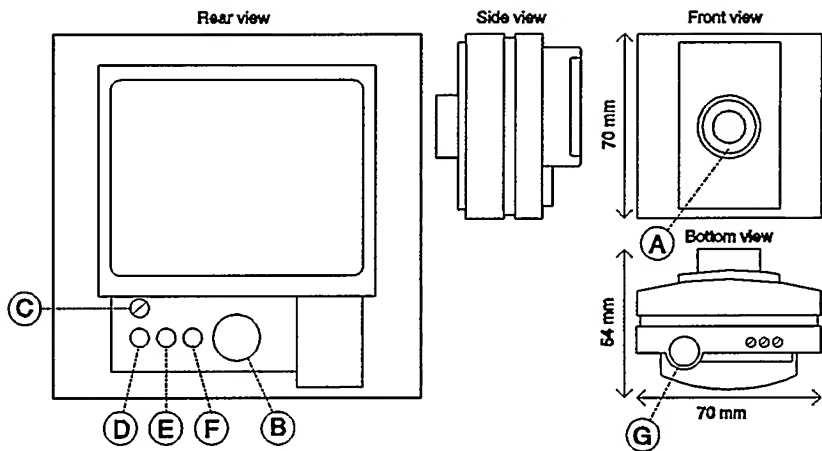

Fig. 1
Connect the power leads to (D) and (E), fig. 1.
For DC supply: (D) is - and (E) is + voltage. An extra safety ground connection is provided, (F) fig. 1, to connect the camera to ground potential. The maximum voltage between the supply inputs (D) and (E) and the safety ground (F) must be less than 50 Volt.
A standard VBS video signal is available at the cinch connector, (G) fig. 1, on the bottom of the camera. The use of a 75 ohm coaxial cable is recommended, for example RG-59/U.
This effect can be avoided by locking the camera to the local line frequency: **linelock**. For this reason the camera is already locked to the local line frequency when an AC power source is used. The Vphase potentiometer, (C) fig. 1, enables a **phase adjustment** of the linelock over 240 degrees.
Your camera is equipped with an integrated, 4 mm, f/2.0 lens, (A) fig. 1, with a viewing angle of 74° horizontally and 55° vertically. The depth of field ranges from 1 metre to infinity.
The camera is provided with a mounting hole with 1/4" Whitworth thread, (B) fig. 1, which makes it possible to mount it on any camera tripod.